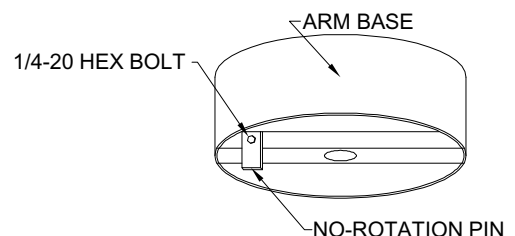

FIG. 9
14. Before installing the arm onto the base unit, the No-rotation pin must be installed at the base of the arm assembly (See Fig.9).